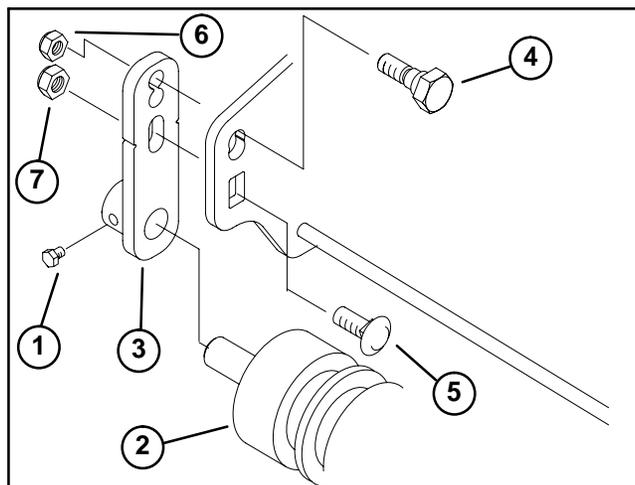

Figure 43
3. Remove cap screws securing the roller shafts to each front bracket (Fig. 43).
Note: The right front bracket is secured to the frame with an eccentric bolt and carriage screw, while the left front bracket is secured with a shoulder bolt and carriage screw (Fig. 43).
4. On either end of the roller, remove eccentric bolt (shoulder bolt), carriage screw, and lock nuts securing the front bracket to the frame (Fig. 43).
5. Remove the front brackets and roller from the cutting unit. Remove the front brackets from the roller shaft (Fig. 43).
3. If both front brackets were removed, position bracket as follows (Fig. 43):
4. Place roller shaft into the front bracket. Slide second front bracket on the other end of roller. Secure bracket as in step 3. (Fig. 43).
5. Apply Loctite 242 or equivalent to the cap screw threads. Center roller in the front brackets and secure into place with the cap screws (Fig. 43).